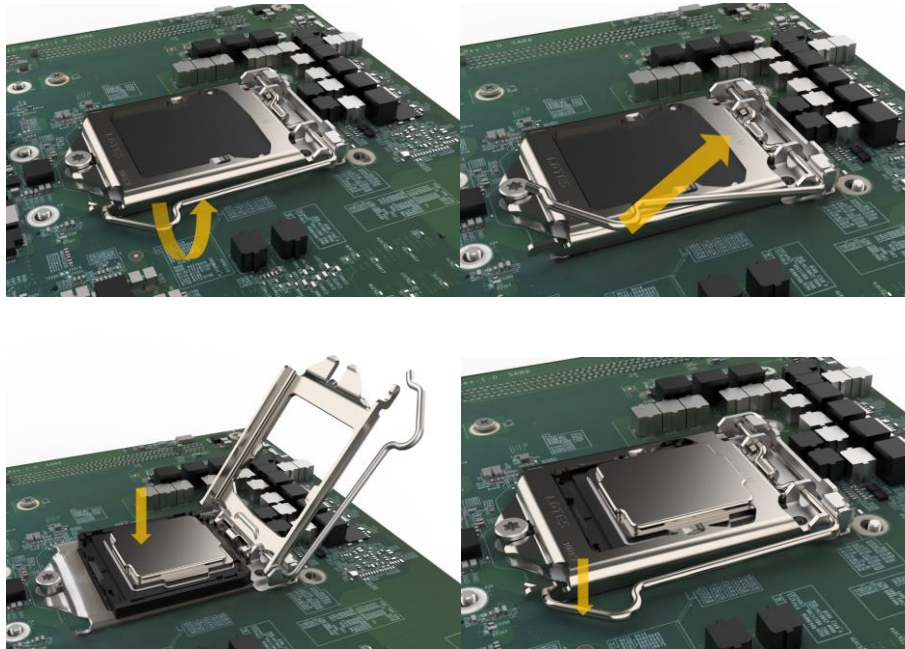

Figure 3-3: CPU Installation
Step 2: Pull the lever of the CPU buckle, remove the CPU protection cover, install the CPU at the notch, and fasten the lever down in the buckle (Figure 3-3).